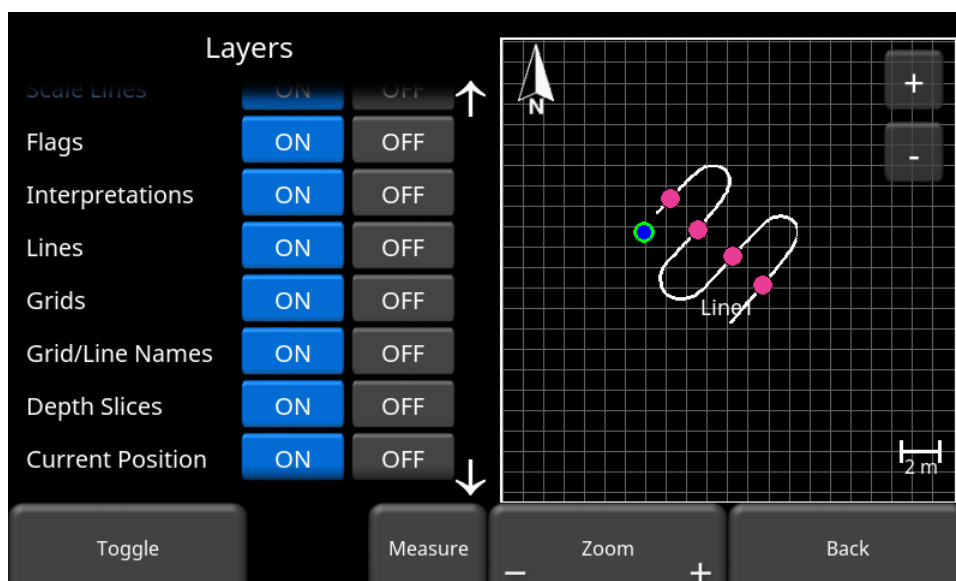

Figure 9-10: Blue dot showing the current position
- **Current Position** – when set to ON, and provided the external GPS is enabled, the current position is indicated on the screen by a blue dot with a green circle (Figure 9-10). Press OFF to hide the current position.